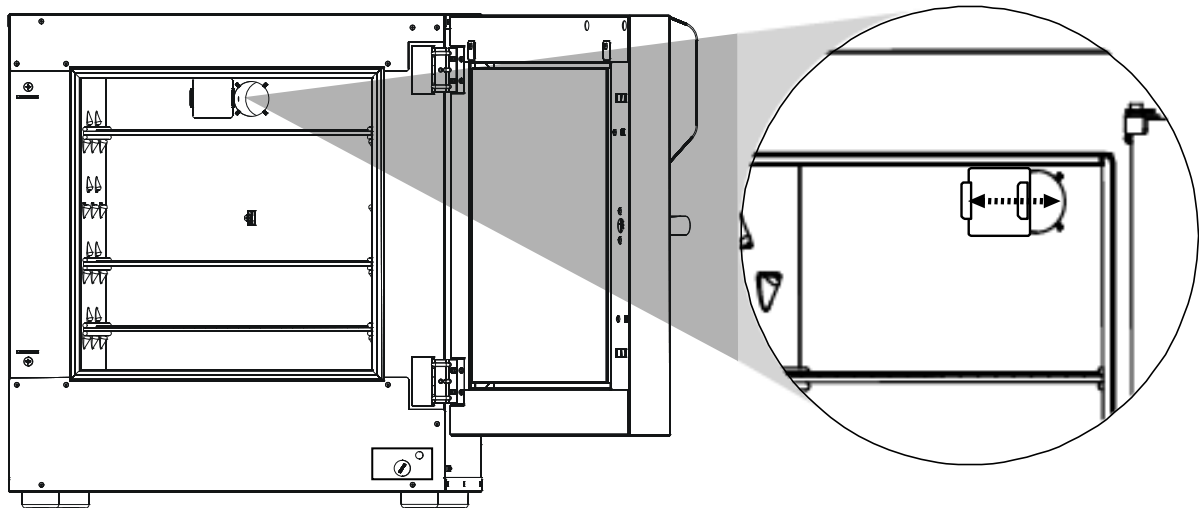

Figure 6: Adjusting the air exchange
1. Shift the ventilation flap so that no condensation inside the DRY-Line drying oven takes place (see Figure 6).